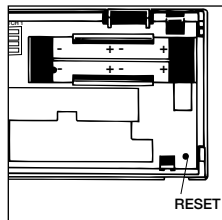

Figure 5
2. Press RESET button. See Figure 5. Pressing RESET will erase any previously entered programming information.